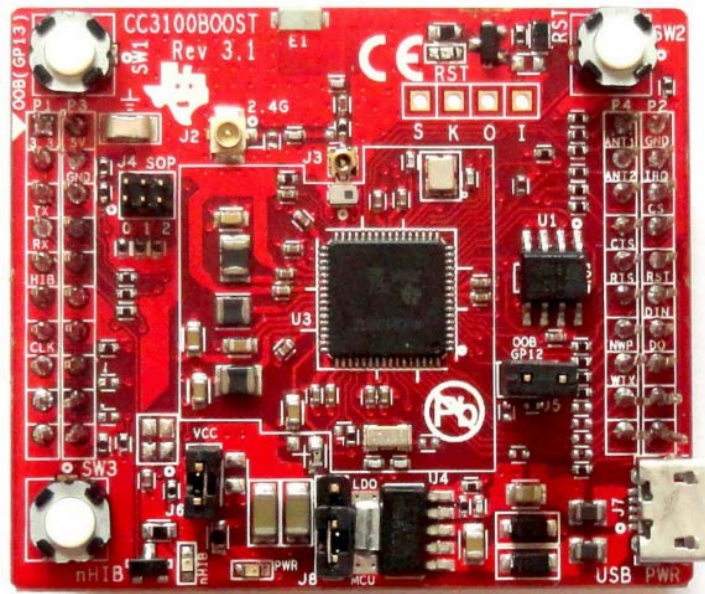
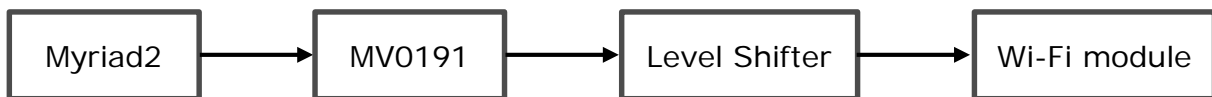
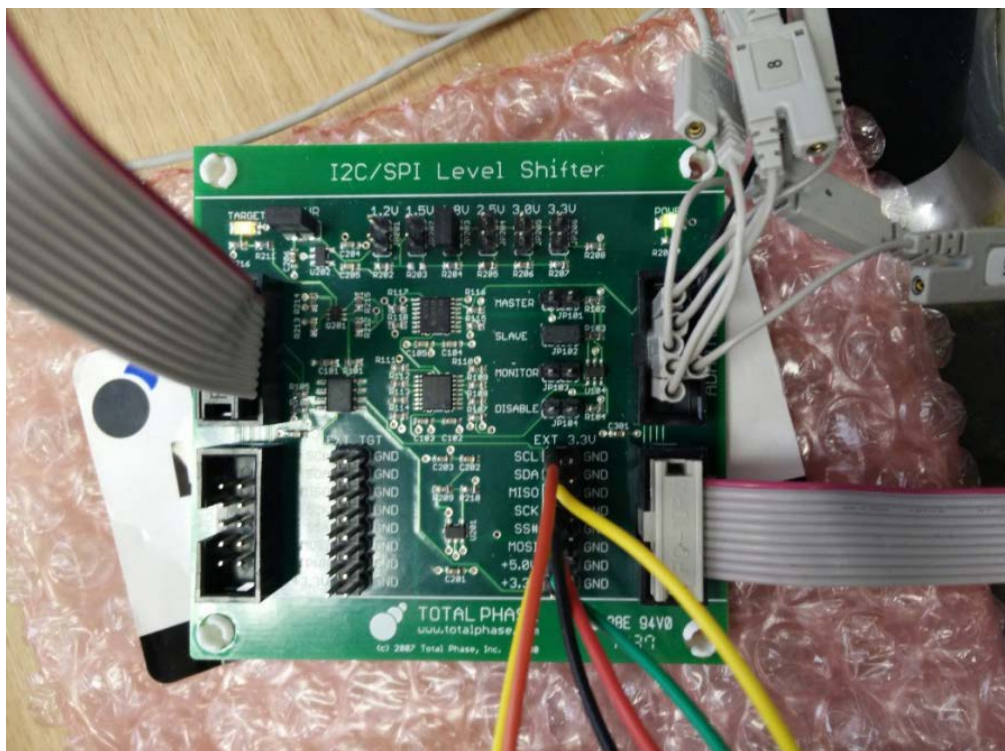
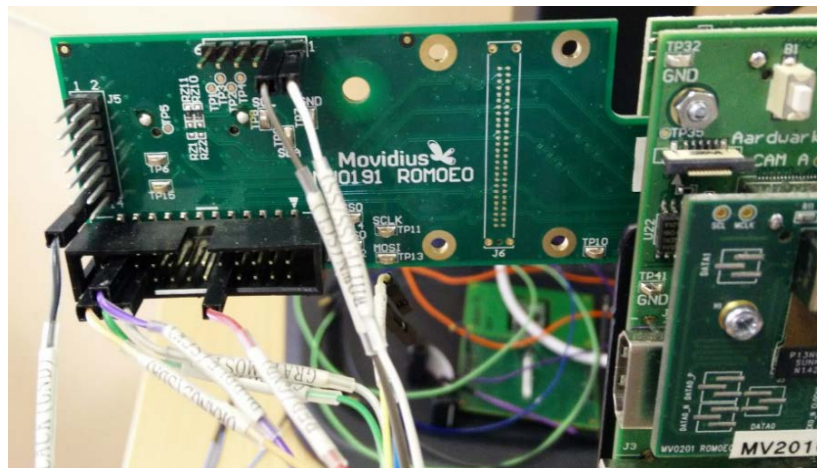

Figure 1: Wi-Fi TI CC3100BOOST.
Figure 4: Block diagram of Wi-Fi rig connection.
Figure 7: TotalPhase Level Shifter Board.
Figure 8: MV0191 extension board.
This section describes the hardware setup and software configuration for using the Texas Instruments CC3100BOOST SimpleLink Wi-Fi device (Fig. 1) along with Movidius Myriad2 development platform (MV0182). Fig. 4. shows the block diagram of Wi-Fi rig connection.
- **Connections:** The pins used on the CC3100 are detailed below. The names in brackets are the names of the equivalent pins used on the Level Shifter board. The colours given are arbitrary and purely in reference to the Fig. 4.
As shown in Fig. 4, the selected CC3100BOOST module is connected to MV0182 development board via the TotalPhase level shifter (Fig. 7) and MV0191 extension board (Fig. 8), which expose the SPI of Myriad2. Jumper setting and connection on level shifter would be as follows: